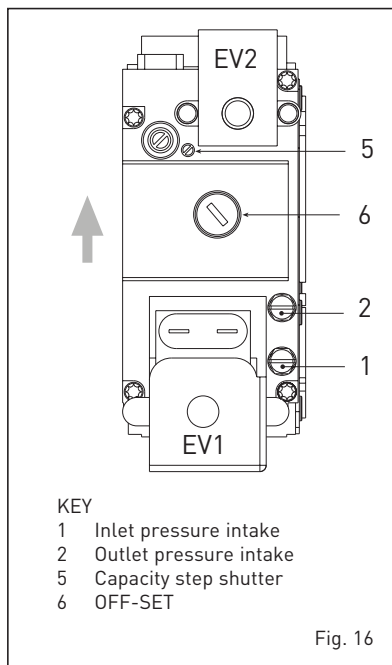

Fig. 16
With the boiler operating in the maximum rate condition check that the operational (working) gas pressure at the inlet gas pressure test point (see fig 16 item 1) complies with the requirements of table 1.3.
Any adjustments should be done in small steps and adjustments of no more than 1/8th of a turn should be made, waiting at least 1 minute between adjustments to allow the settings to stabilise. Using the CO₂ reading, adjustments should be made to the "OFF-SET" screw (6 fig 16) if it is incorrect at the minimum output, or to the "SHUTTER" (5 fig 16) if it is incorrect at the maximum output.
4.1 GAS VALVE (fig. 16)
The boiler is supplied as standard with a gas valve, model SIT 822 NOVAMIX (fig. 16).
- 3) Identify the CO₂ values at max. power by adjusting the shutter [5 fig. 16]:
- 5) Identify the CO₂ values at min. power by adjusting the OFF-SET regulation screw [6 fig. 16]: